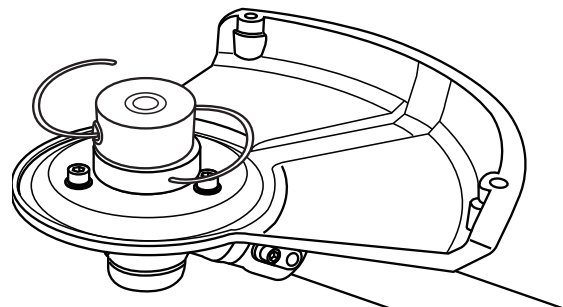

Fig. 26
2. Use the screwdriver to remove the nut and spacer (Fig. 26).